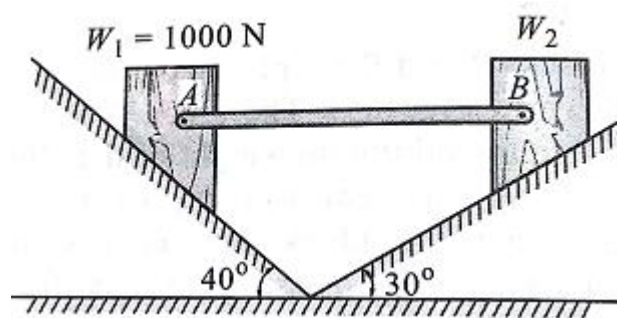

Fig.9
6. Two blocks  $W_1$  and  $W_2$  resting on two inclined planes are connected by a horizontal bar AB as shown in Fig.9. If  $W_1$  is equals 1000 N, determine the maximum value of  $W_2$  for which the equilibrium can exists. The angle of limiting friction is  $20^\circ$  at all rubbing faces. [L4] [12 M]